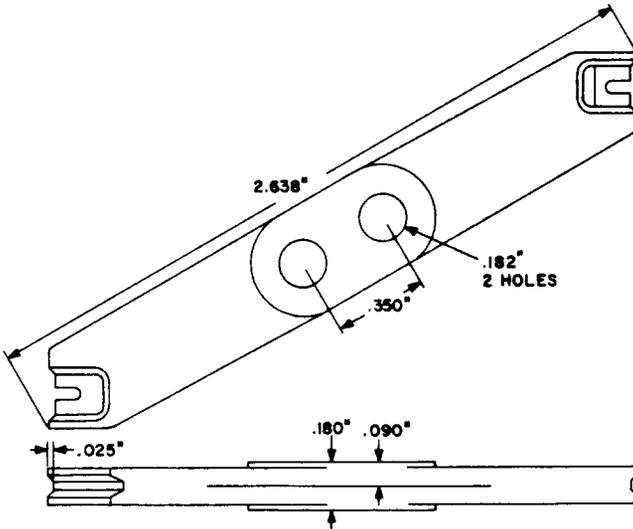

Fig. 13—797A Insertion Tool
2.14 **797A:** The 797A double-ended plastic lead insertion tool (Fig. 13) is used with the 788A1 tool (handle). This tool is used in wiring of the 630A jack phone center. The 797A tool seats and inserts, but does not trim insulated station wire conductors.